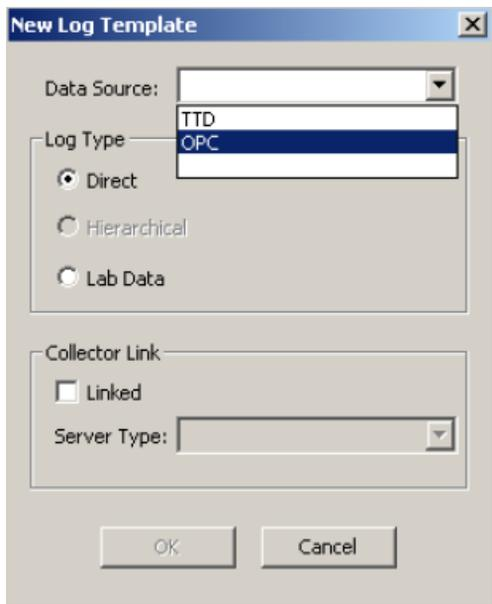

Figure 260. New Log Template Pop-Up Dialog Box
8. In the pop-up dialog box New Log Template, select a source from the **Data Source** drop-down menu and click **OK**. In this example OPC is selected. See Figure 260.